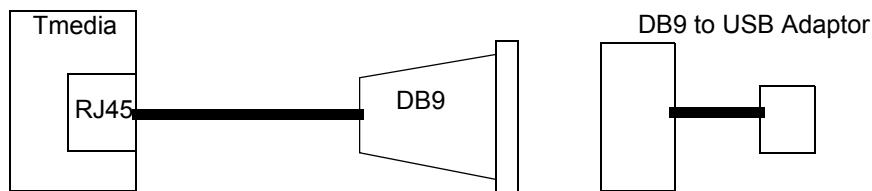

Figure 7.2 Conceptual View of a Serial Connection from the Tmedia VoIP Gateway to a Computer
2. If your computer's serial port features a DB9 connector, use the DB9 to RJ-45 adapter supplied with your Tmedia VoIP Gateway. If your computer's serial port features a USB connector, you will need to provide a USB to DB9 adaptor. Refer to figure 7.2 on page 62.